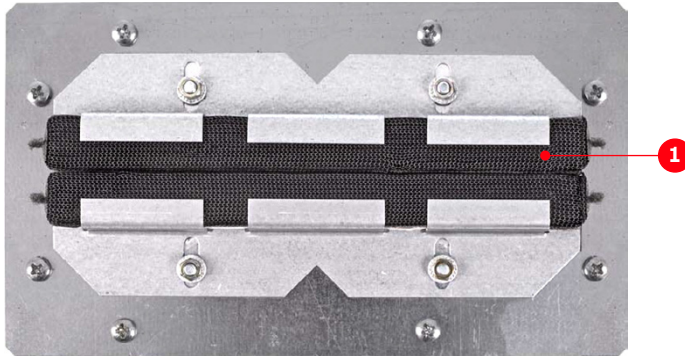

Figure 7-3: EMC cushion
(1) EMC sleeves
(2) Sealing grommets
- EMC cushions (1 Fig. 7-3) on the underside of the EMC plate if the cable entry is used for control cables.